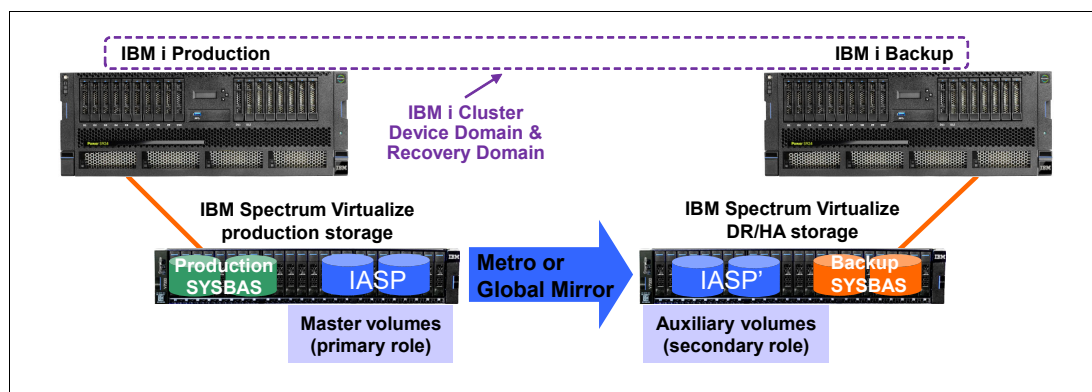

Figure A-12 IBM i IASP replication with IBM Spectrum Virtualize
IASP IASP-based replication for IBM i is used for a high availability (HA) solution where an IBM i production and an IBM i backup node are configured in an IBM i cluster and the IASP that is replicated by IBM Spectrum Virtualize remote replication is switchable between the two cluster nodes as shown in Figure A-12.